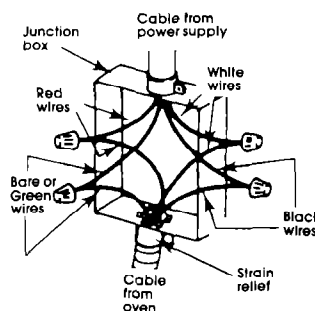

Figure 4
3. Connect the two black wires, then the two red wires. See Figure 4.